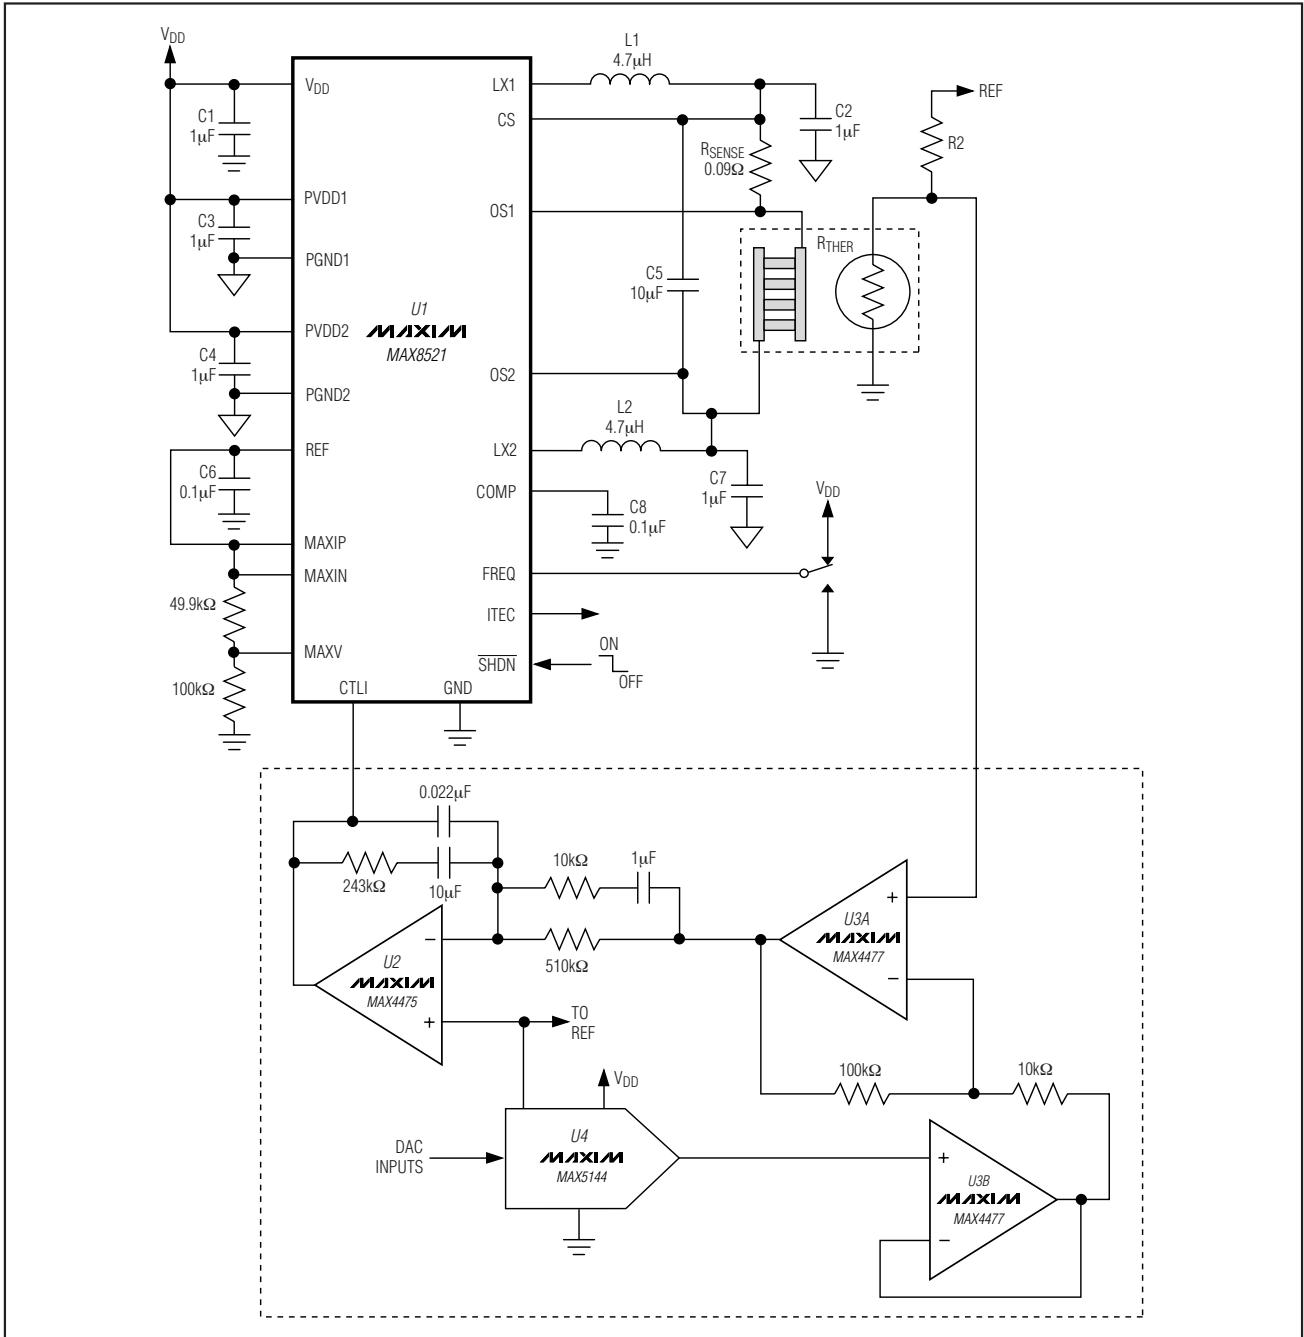

Figure 1. MAX8521 Typical Application Circuit
(VDD = 5V, circuit of Figure 1, TA = +25°C unless otherwise noted.)
The MAX8520/MAX8521 TEC drivers consist of two switching buck regulators that operate together to directly control the TEC current. This configuration creates a differential voltage across the TEC, allowing bi-directional TEC current for controlled cooling and heating. Controlled cooling and heating allow accurate TEC temperature control to within 0.01°C. The voltage at CTLI directly sets the TEC current. An external thermal-control loop is typically used to drive CTLI. Figures 1 and 2 show examples of the thermal-control-loop circuit.
Table 1. TEC Connection for Figure 1
The MAX8520/MAX8521 include an on-chip voltage reference. The 1.50V reference is accurate to 1% over temperature. Bypass REF with 0.1μF to GND. REF can be used to bias an external thermistor for temperature sensing as shown in Figures 1 and 2.
The common-mode filter capacitors ( $C_2$  and  $C_7$  of Figure 1) are used as filter capacitors to ground for each output. The output ripple voltage depends on the capacitance, the ESR of these capacitors, and the inductor ripple current. Ceramic capacitors are recommended for their low ESR and impedance at high frequency.
The differential-mode filter capacitor (C5 in Figure 1) is used to bypass differential ripple current through the TEC as the result of unequal duty cycle of each output. This happens when the TEC current is not at zero. As TEC current increases from zero, both outputs move away from the 50% duty-cycle point complementarily. The common-mode ripple decreases, but the differential ripple does not cancel perfectly, and there will be a resulting differential ripple. The maximum value happens when one output is at 75% duty cycle and the other is at 25% duty cycle. At this operating point, the differential ripple is equal to 1/2 of the maximum common-mode ripple. The TEC ripple current determines the TEC performance, because the maximum temperature differential that can be created between the terminals of the TEC depends on the ratio of ripple current and DC current. The lower the ripple current, the closer to the ideal maximum. The differential-mode capacitor provides a low-impedance path for the ripple current to flow, so that the TEC ripple current is greatly reduced. The TEC ripple current then can be calculated as follows:
There are numerous ways to implement the thermal loop. Figures 1 and 2 show designs that employ precision op amps, along with a DAC or potentiometer to set the control temperature. The loop can also be implemented digitally, using a precision A/D to read the thermistor or other temperature sensor, a microcontroller to implement the control algorithm, and a DAC (or filtered-PWM signal) to send the appropriate signal to the MAX8520/MAX8521 CTLI input. Regardless of the form taken by the thermal-control circuitry, all designs are similar in that they read temperature, compare it to a set-point signal, and then send an error-correcting signal to the MAX8520/MAX8521 that moves the temperature in the appropriate direction.
6) To ensure high DC-loop gain and minimum loop error, keep the board layout adjacent to the negative input pin of the integrator (U2 in Figure1) clean and free of moisture. Any contamination or leakage current into this node can act to lower the DC gain of the integrator which can degrade the accuracy of the thermal loop. If space is available, it can also be helpful to surround the negative input node of the integrator with a grounded guard ring.